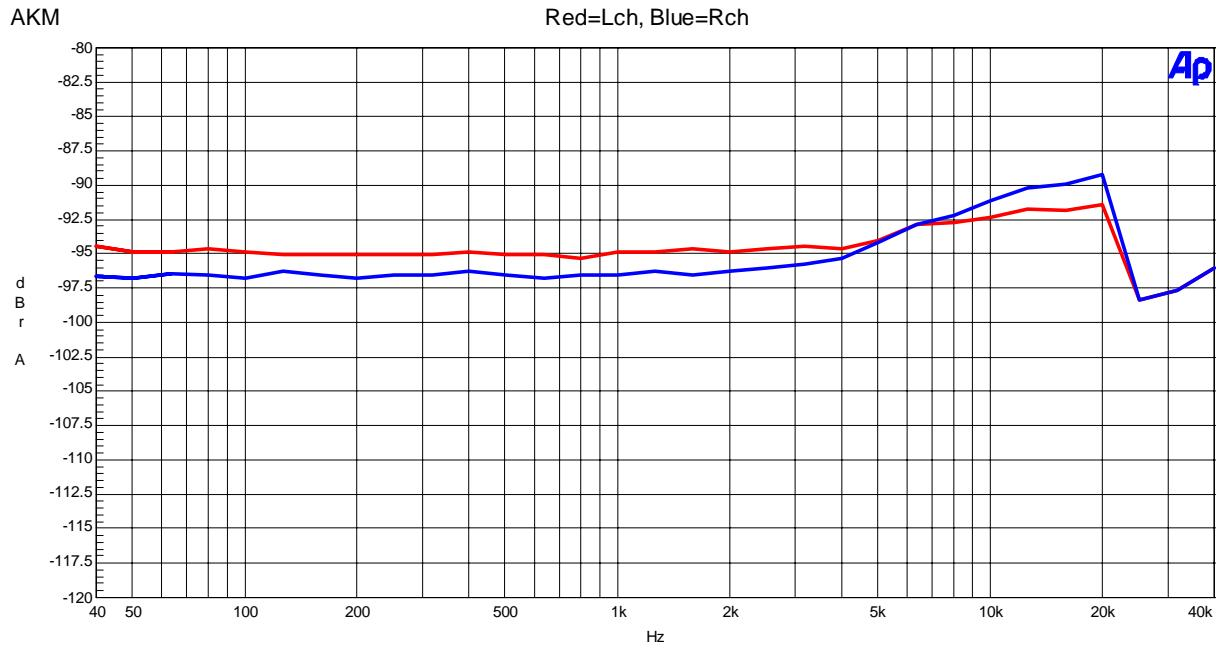

Figure 37 THD+N vs fin (Input level=0dBFS)
- Figure 37 THD+N vs fin (Input level=0dBFS)